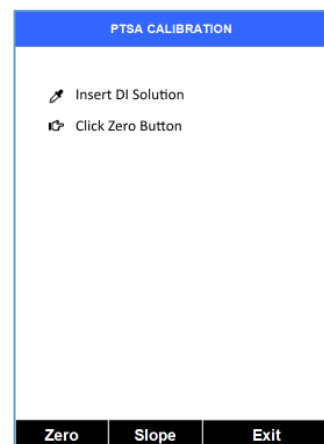

Figure 13
5. Press **Zero** to set the zero point, as shown in Figure 13.
3. Press **Calib** (the > key) to launch the calibration selection screen (Figure 9). Press **Calib** again to select **Cond** (conductivity) calibration. Press **OK** to start the calibration procedure. The default conductivity calibration screen is the Combined Calibration (Figure 13). This will calibrate both Conductivity (at 1000 μS) and PTSA (at 100 ppb) when using the Pyxis PTSA-1010C combined standard.